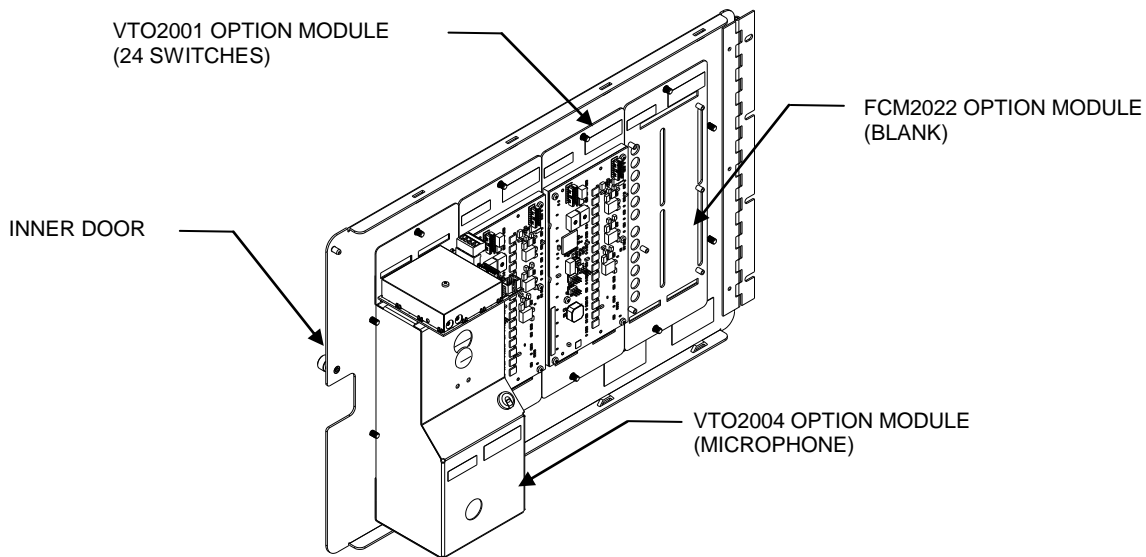

Figure 4
- b. **VR2005-U1 Remote Microphone.** Please see Figure 4. Consult the site-specific shop drawings to determine how many VTO2001-U2/3 Option Module (24 Switches) units to mount in the VR2005-U1 Remote Microphone station.